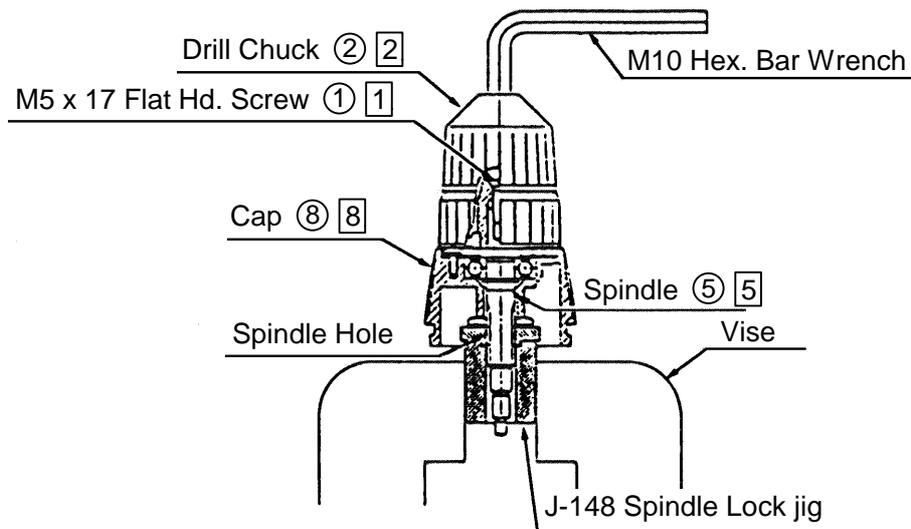

Fig. 1
When removing the Final Gear (15) [15], be careful not to lose the three D4.76 Steel Balls (14) [14] which are retained in the Ball Holder (13) [13]. Next, remove the Thrust Needle Bearing (12) [12], Thrust Plate (11) [11], Spring (10) [10], and Spring Holder (9) [9], in that order. As illustrated in Fig. 1, secure a J-148 Spindle Lock Jig (Special Repair Tool, Code No. 970928) in a vise, and insert the assembled Drill Chuck (2) [2], Spindle (5) [5], Cap (8) [8], and related parts into the Spline hole of the J-148 Spindle Lock Jig. Next, fully open the jaws of the Drill Chuck (2) [2], and remove the M5 x 17 Flat Hd. Screw (1) [1] by turning it clockwise with a slotted screwdriver. (Carefully remember that the M5 x 17 Flat Hd. Screw is left-hand threaded, and must be loosened by turning it clockwise.)
Finally, as illustrated in Fig. 1, clamp an M10 Hex Bar Wrench in the Drill Chuck (2) [2], and turn it counterclockwise to loosen and remove the Drill Chuck.